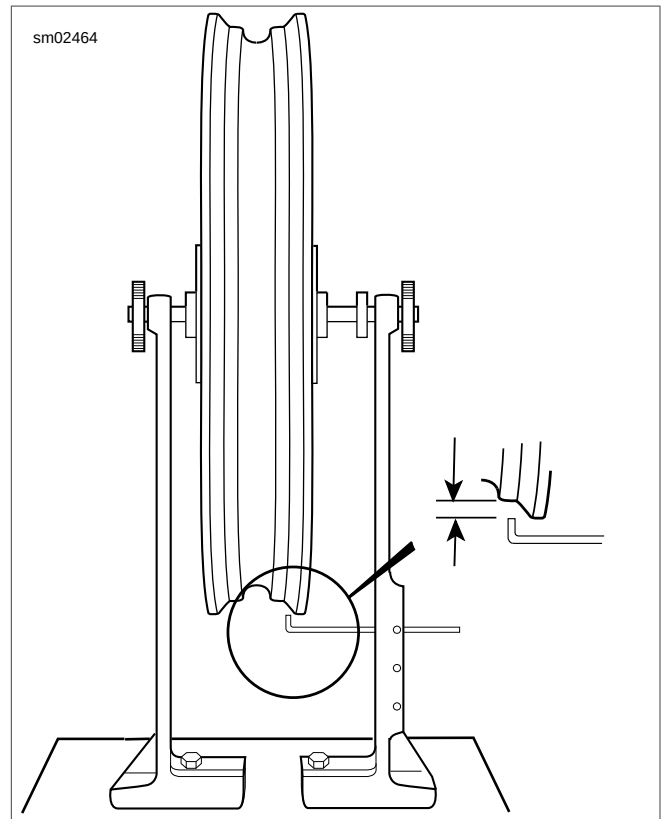

Figure 2-54. Truing Rim Radially
1. See Figure 2-54. Adjust truing stand gauge to the rim's tire bead seat as shown. The rim should be trued within 0.030 in. (0.76 mm).